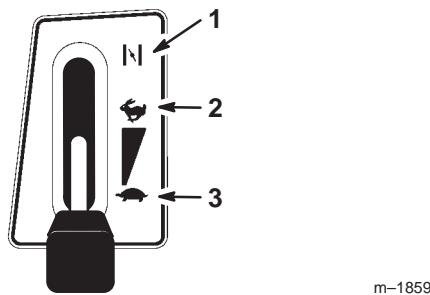

Figure 10
- Move the throttle lever to Choke (Fig. 10).
- After the engine starts, slowly move the throttle lever to Fast (Fig. 10). If the engine stalls or hesitates, move the throttle lever back to Choke for a few seconds. Then move the throttle lever to Fast. Repeat this as required.
- Move the throttle lever to Fast (Fig. 10).